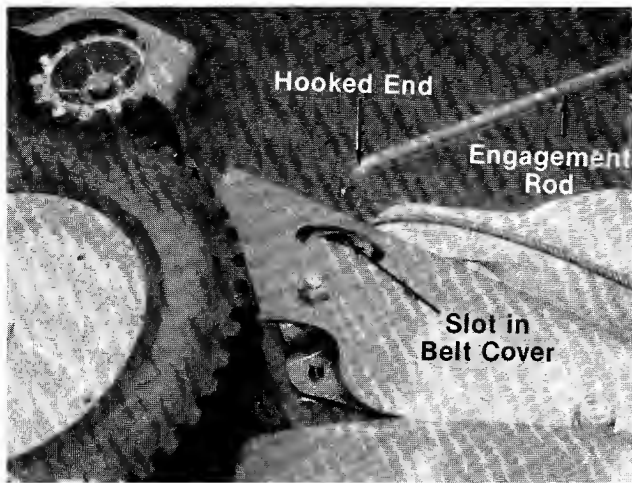

FIGURE 7.
8. Place the hooked end of engagement rod in slot on belt cover. See figure 7.